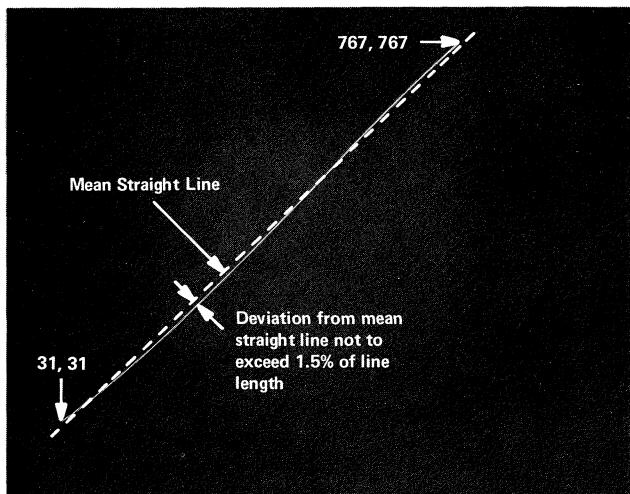

Fig. 4-12. Vector Dynamic Geometry Error.
- d. CHECK—Deviation from a mean straight line should not exceed 1.5% of the line length. See Fig. 4-12. [If the gain were adjusted in accordance with this procedure, the line length should be approximately 19.1 cm (7.52 inches), and deviation from a mean straight line should not exceed approximately 3 mm (actually 2.865 mm) or 1/8 inch at any point.]